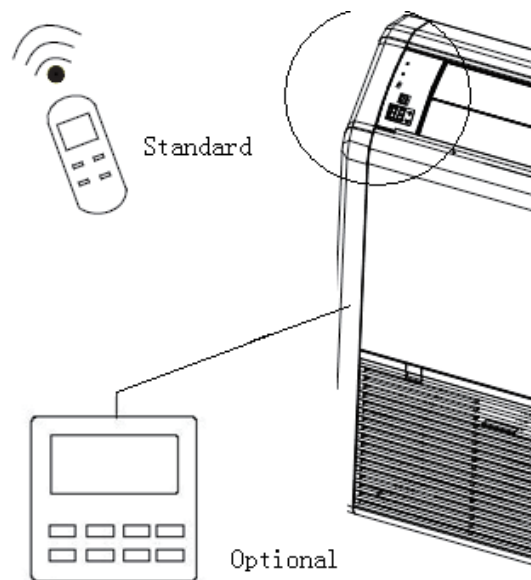

Fig 5.4.2
- (6) Both IDU and wired controller are equipped with signal receiver, and available for remote control respectively. (Fig 5.4.2)